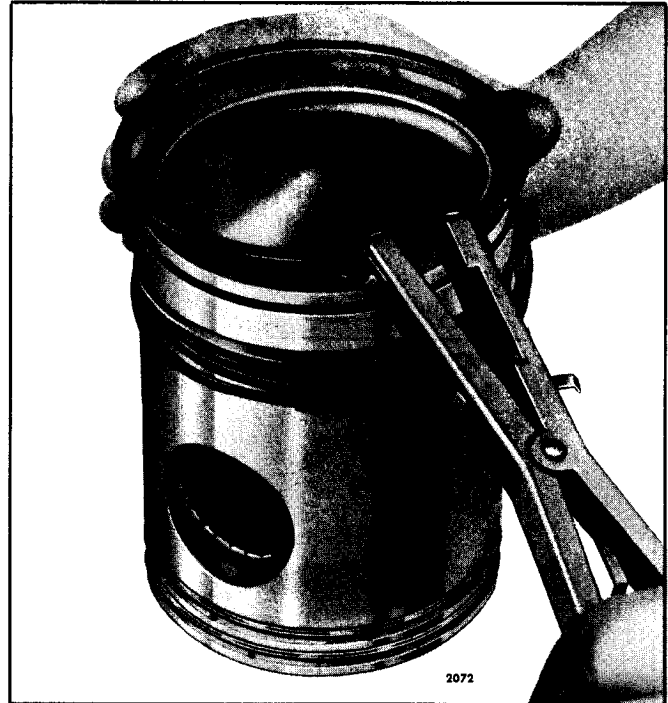

Fig. 2 - Removing or Installing Piston Ring using Tool J 8128
1. Secure the connecting rod in a vise equipped with soft jaws and remove the piston rings with tool J 8128 (Fig. 2).